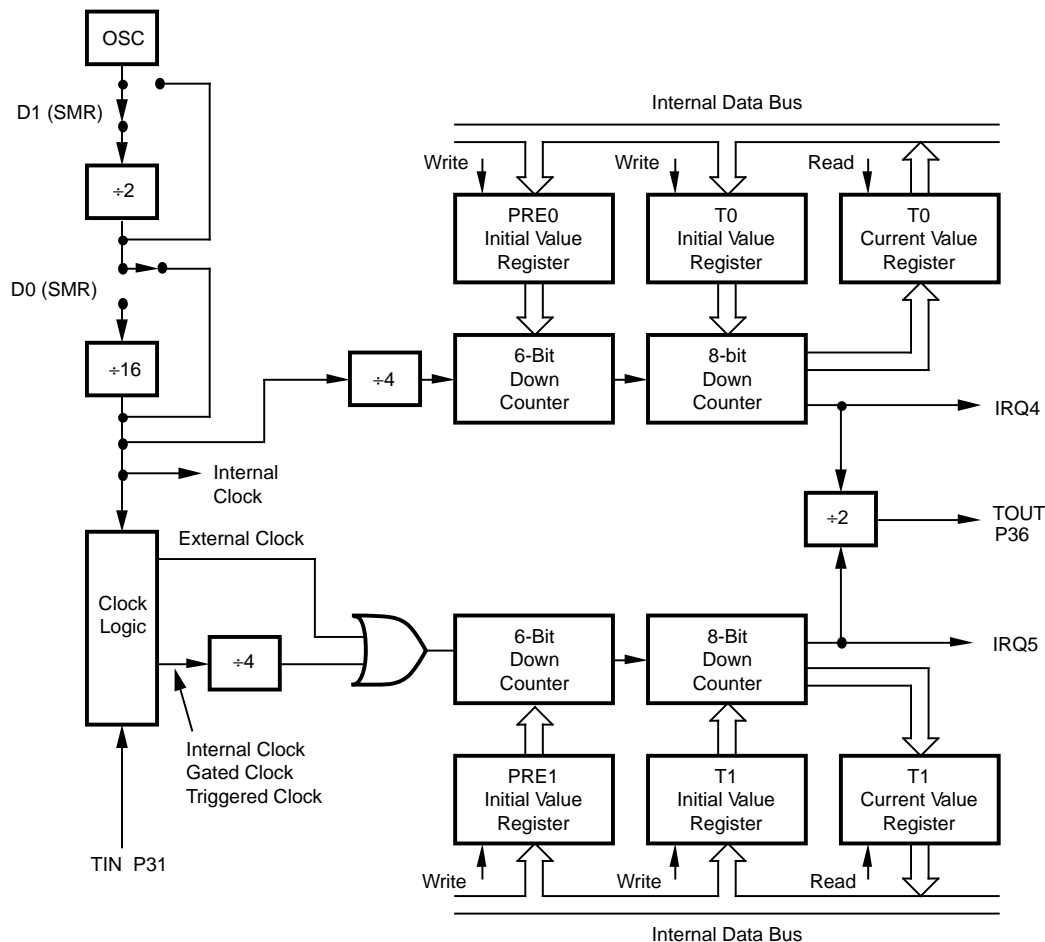

Figure 19. Counter/Timer Block Diagram
**Counter/Timers.** There are two 8-bit programmable counter/timers (T0-T1), each driven by its own 6-bit programmable prescaler. The T1 prescaler is driven by internal or external clock sources; however, the T0 prescaler is driven by the internal clock only (Figure 19).